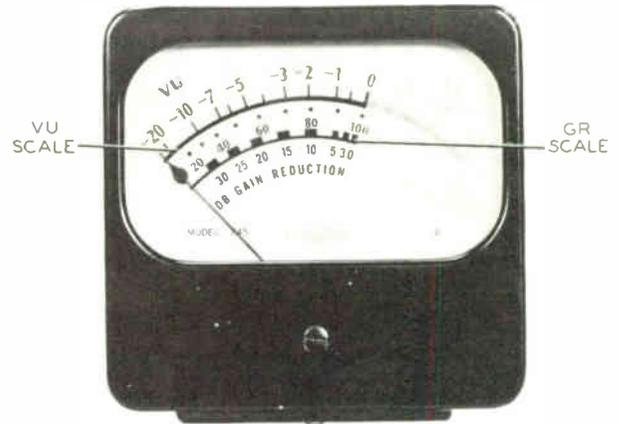

Figure 7. Vu Meter With GR Scale Decal Applied
c. Apply the decal to the VU meter scale with the plain black line of the decal directly over the black line on the meter scale and with the zero of the decal aligned with the zero of the meter scale. See figure 7.